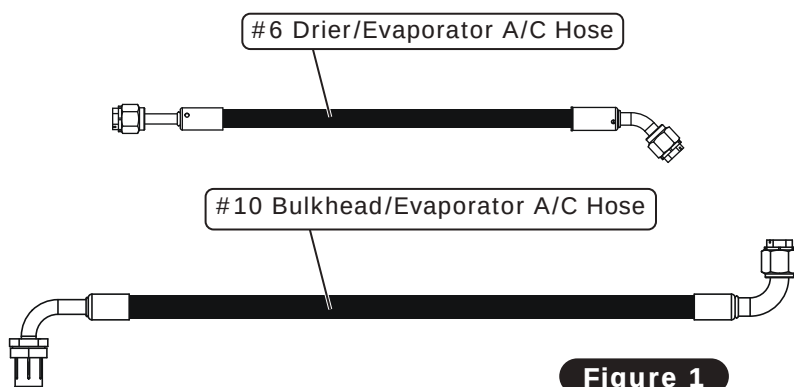
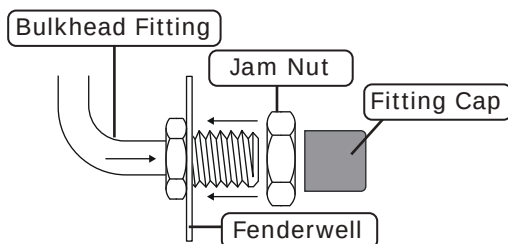

Figure 1
Figure 2
2. Locate the #10 bulkhead/evaporator A/C hose, (See Figure 1, below), and install the end of the hose with the 90° hose fitting through the inner fenderwell (See Photo 2, below). **NOTE: The 90° bulkhead fitting will restrict the A/C hose from going through the inner fenderwell (See Figure 2, and Photo 2, below).**
4. Locate the #6 drier/evaporator hose (See Figure 1, below), and install it onto the drier with a properly lubricated O-ring (See Lubricating O-rings, Page 21, and Photo 4, below).